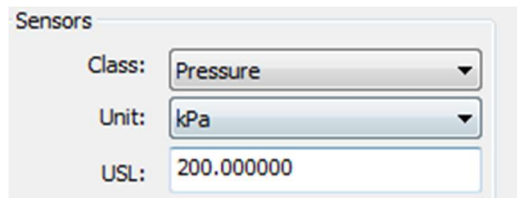

Figure 5.58 Upper Range Selection of Sensor Range
1. Select "detailed Design"->"Sensor"-> drop-down box corresponding to"Sensor range limit", as shown in Figure 5.58 错误!未找到引用源。